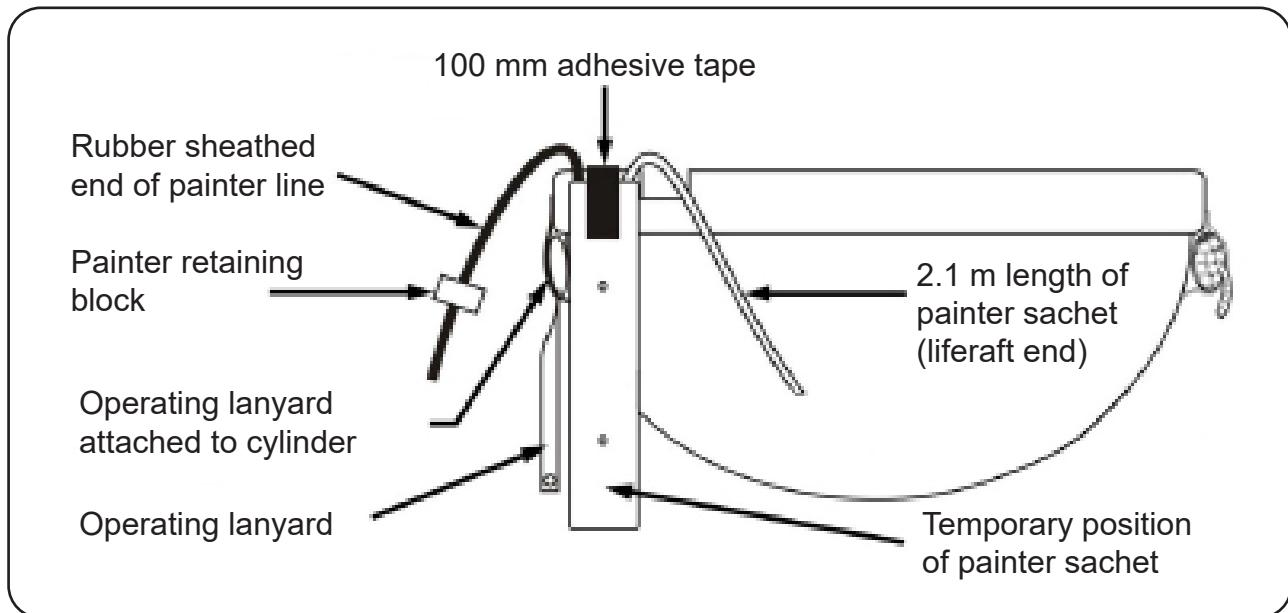

FIGURE 827
- 5.26 Temporarily attach the painter sachet to the rear of the lower half of the container using adhesive tape. Make sure that the open end of the painter sachet is at the edge of the container with the painter line cut-out. Refer to FIGURE 827.